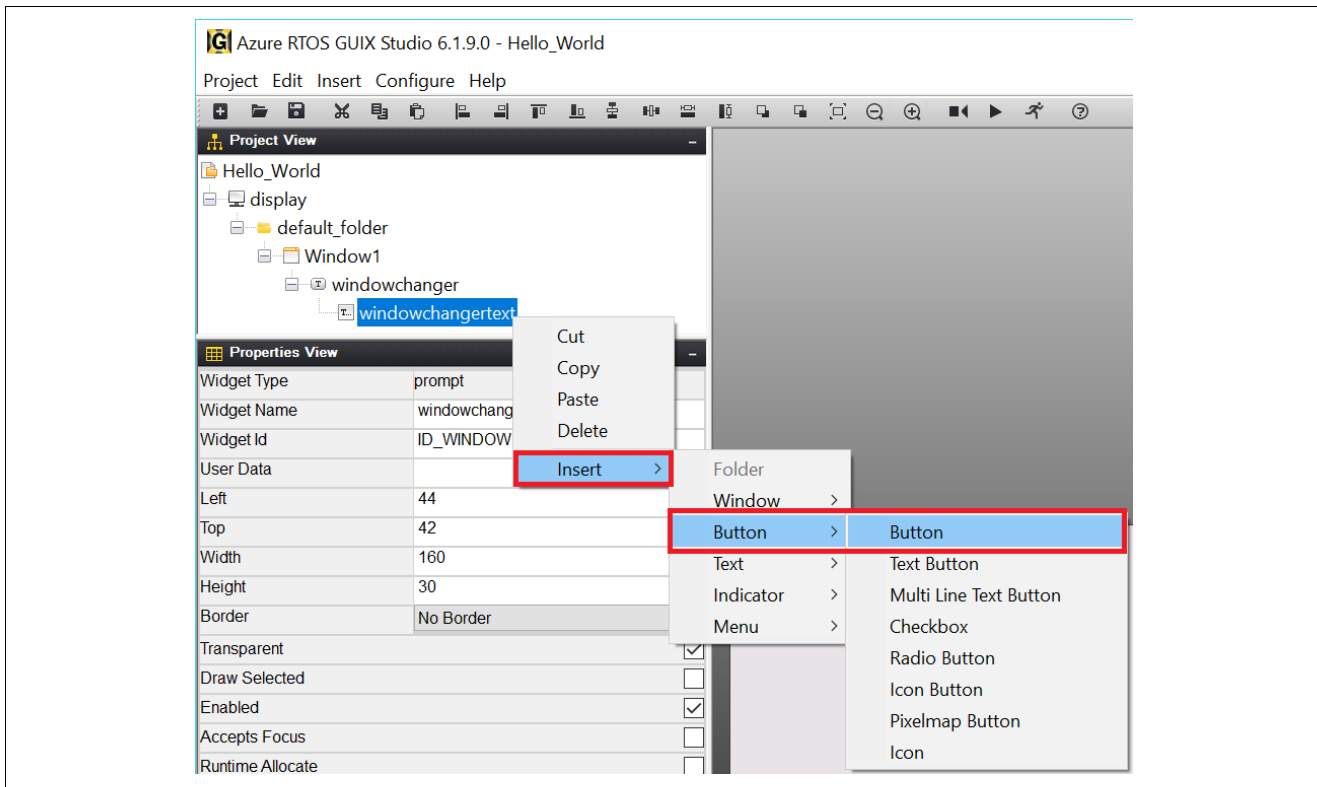

Figure 63. Insert Button
10. Insert new **Button**. Right-click on **windowchangertext** and follow Figure 63.